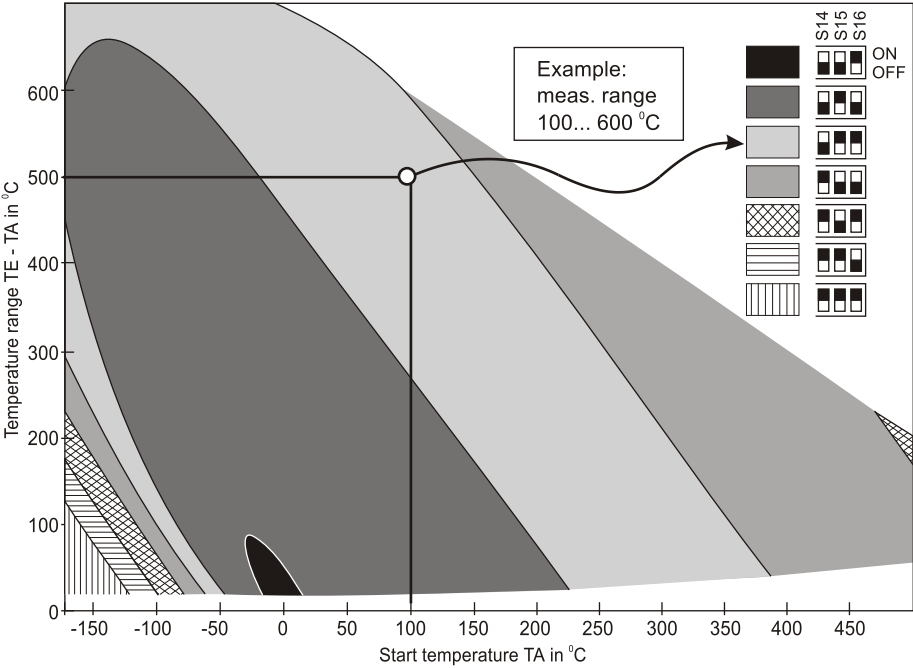

Fig. 9. Switch positions (S14...S16) for linearisation.
A switch combination has to be set to linearise the range that depends on the minimum value of the measuring range (TA) and the temperature range (TE - TA). Fig. 9 shows how the switch positions are determined for the example of a measuring range of 100...600°C. The correct switch positions for this example are "OFF-ON-ON".